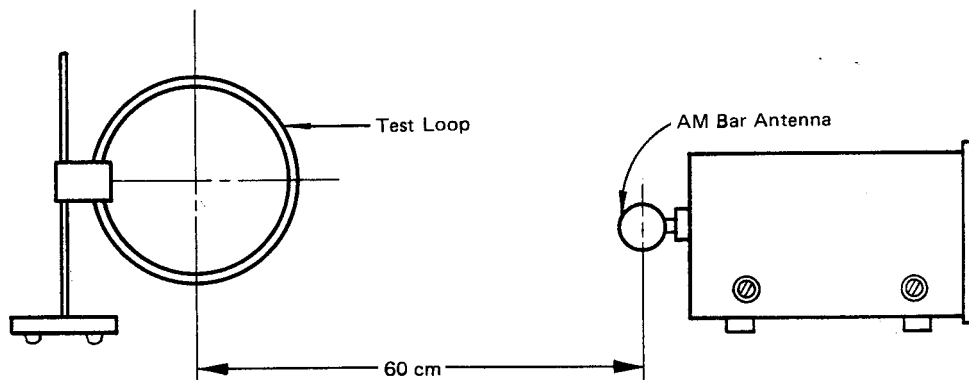

Figure 2. Application of AM Signal
- 1) Set the output frequency of AM signal generator at 1000 kHz accurately by using the frequency counter, and, apply the signal to the AM bar antenna from the RF generator, using the test loop, as per the Figure 2.